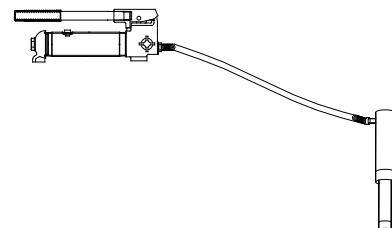

Figure 7 - Illustration to bleed air from system
1. Place pump at a higher elevation than the hose and ram as shown in figure 7.